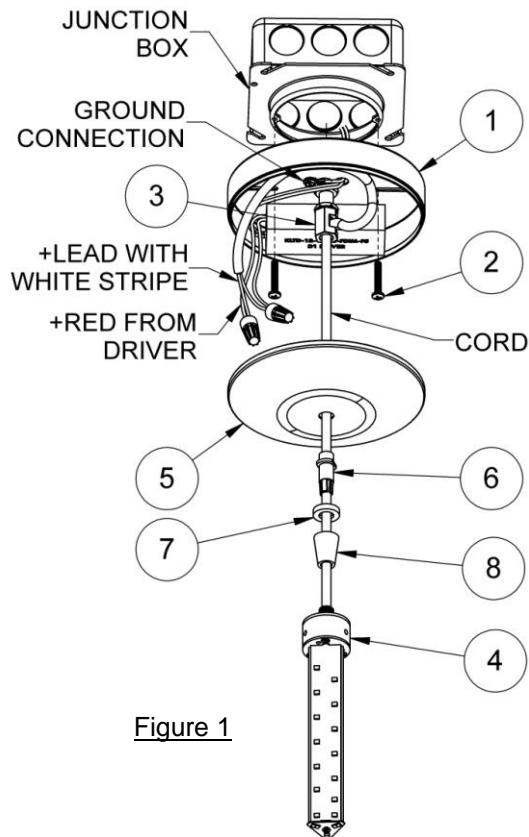

Figure 1
- A. Uncoil cord, part of pendant holder (4) and thread the loose end through strain relief, which has 3 parts (6), (7) & (8). Thread thru small end of cone shaped part (8) first, finished side of (7) and cable grip fingers of (6) so all face down toward pendant holder, Figure 1.
- B. Temporarily secure strain relief onto cord at desired height by tightening (8) onto plastic threaded cord grip (6) as shown in Figure 1.
- C. Feed the cord through the center hole of decorative canopy (5) and move it down to strain relief position.